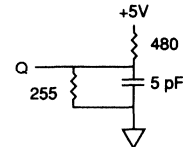

Fig. 2 OUTPUT LOAD EQUIVALENT
6. t_{HZCE}, t_{HZWE} and t_{HZOE} are specified with CL = 5pF as in Fig. 2. Transition is measured ± 500mV from steady state voltage.